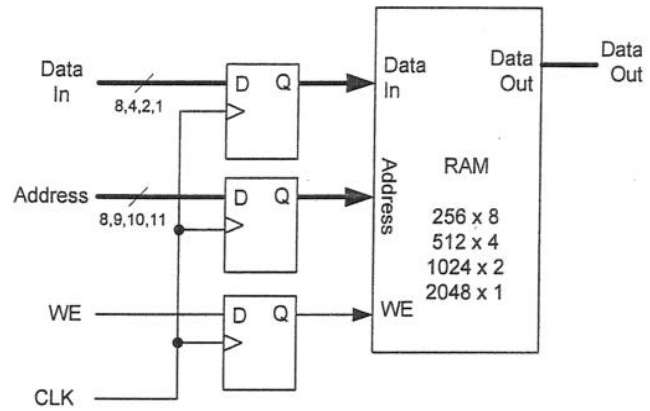

Figure 6.2
- a) Figure 6.2 depicts a programmable block RAM found in the FPGA. Each block RAM can be configured as 2048×1, 1024×2, 512×4 or 256×8 RAM. The data output can be registered or unregistered depending on how the block RAM is configured as shown in Figure 6.2. With the aid of a diagram, explain how you would use multiple block RAMs to implement the memory used in the LIFO.